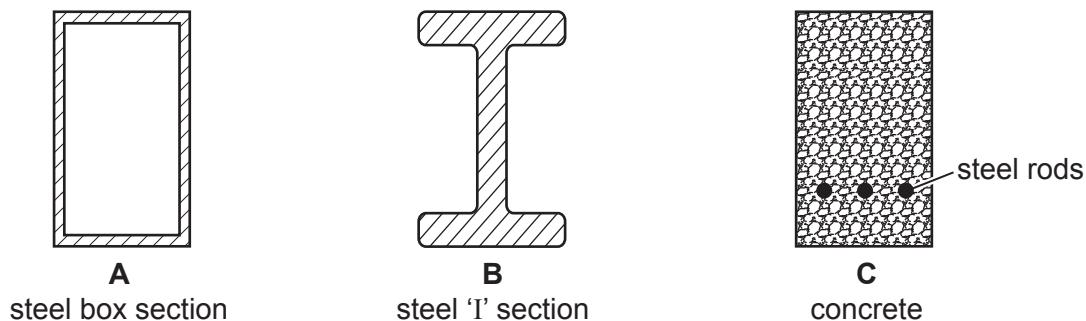

Fig. 10.2
- (d) Fig. 10.2 shows sections through three different beams used in structures.
- (ii) Explain why the beams in Fig. 10.2 are placed on their narrow edge when in use.